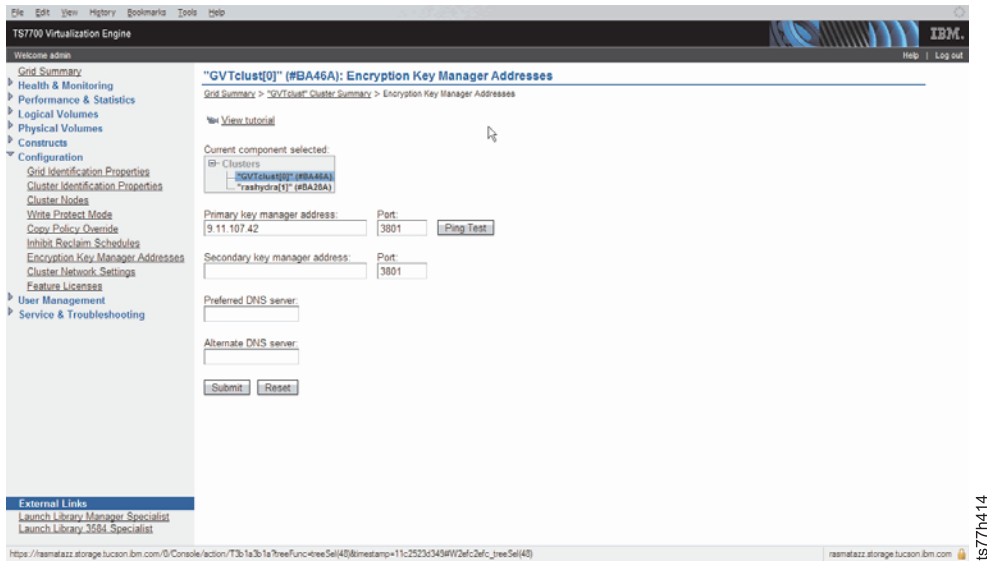

Figure 32. Encryption key server addresses
2. Verify that at a minimum, the **Primary key server address** and **Port** fields are complete, as shown in Figure 32 on page 92.